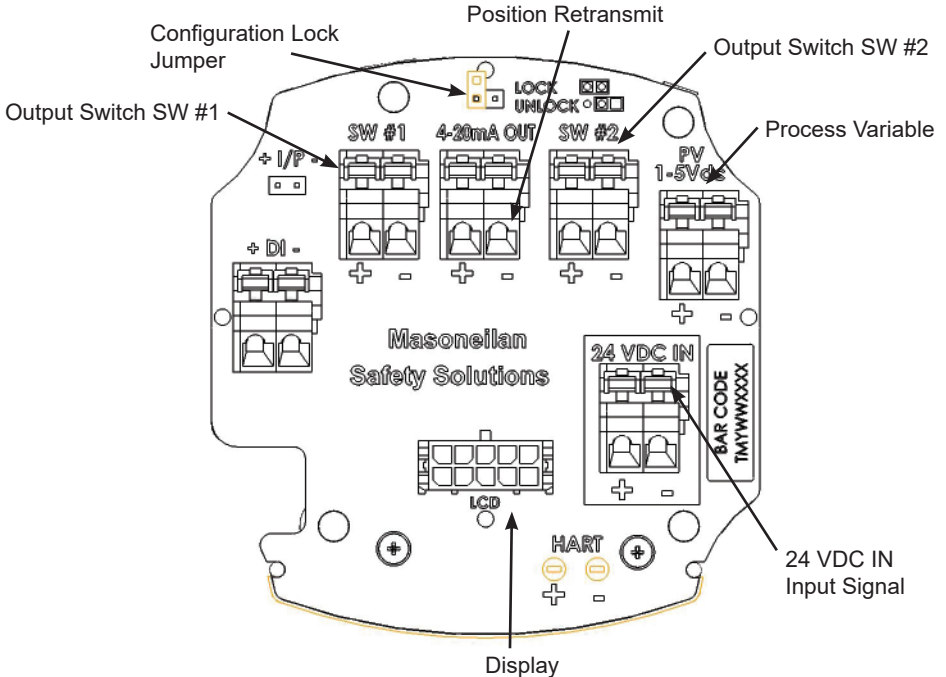

Figure 16 - Connections to DSD Electronics Module (via Terminal Board)
1. Loosen the four (4) cover screws and remove the cover of the SVI II ESD.
2. Connect the +/- terminals of the 24 VDC power source to the 24 VDC ESD IN connector (on the terminal board). The voltage + must connect to the terminal board connector +, and the same for -. See Figure 16 on page 44.